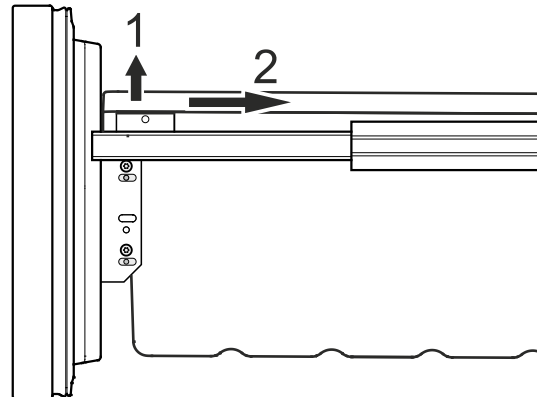

Figure 18
- Unlatch the container on the left and right corners by pulling upwards (1) - **Figure 18**.
- Slide the container backwards (2) - **Figure 18**.